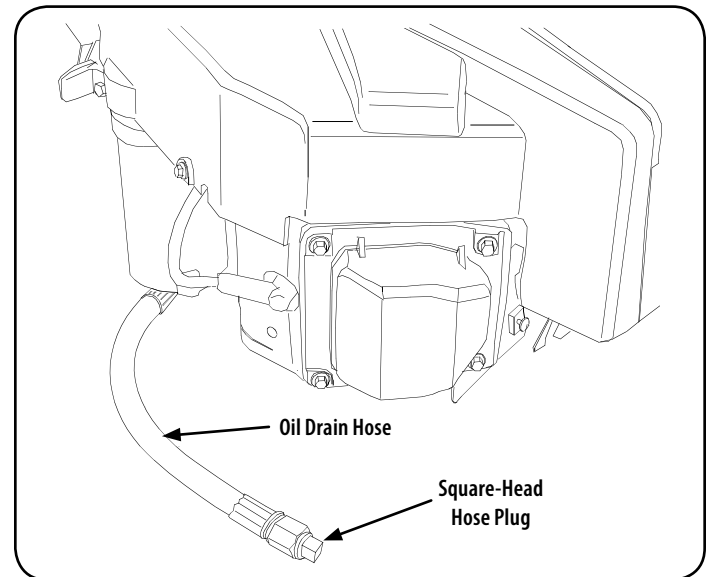

Figure 26
2. Locate the oil drain hose on the left side of the engine. See Figure 26.
4. While holding the free end of the oil drain hose over the oil collection container, unscrew the square head hose plug from the end of the hose. See Figure 26. Drain the engine oil into the collection container.